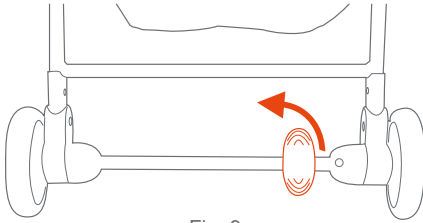

Fig. 9
9) • To release, gently rotate up on the brake lever (Fig. 9).